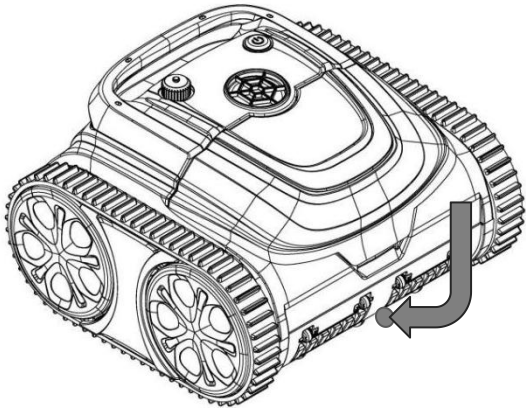
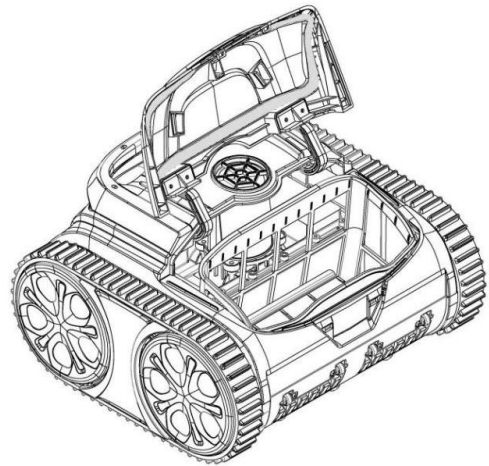

Figure 4-1
Figure 4-2
4.3.1 Take out the filter box: Place the cleaner on the shore, open the cover plate by hand according to the position indicated in the figure (Figure 4-1), and the filter box is shown in the figure (Figure 4-2).